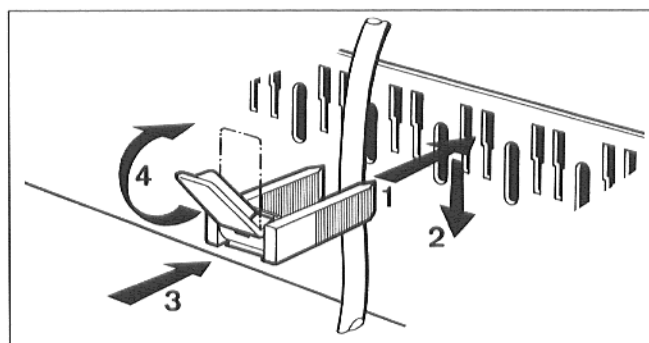

Fig. 41 - Detail "A" - cable clamp
- Insert the cable clamp with the lead fitted from above into the slot of the clip frame. The lever must point upward. Push the cable clamp down and press against it. Push the lever upward to clamp (Fig. 41).